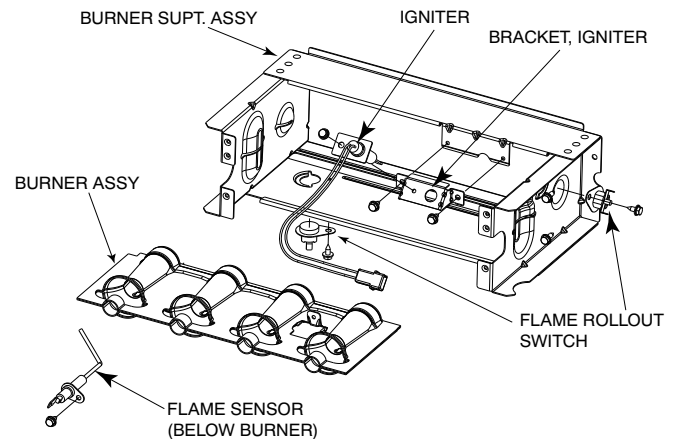
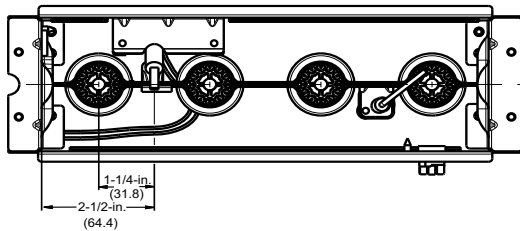
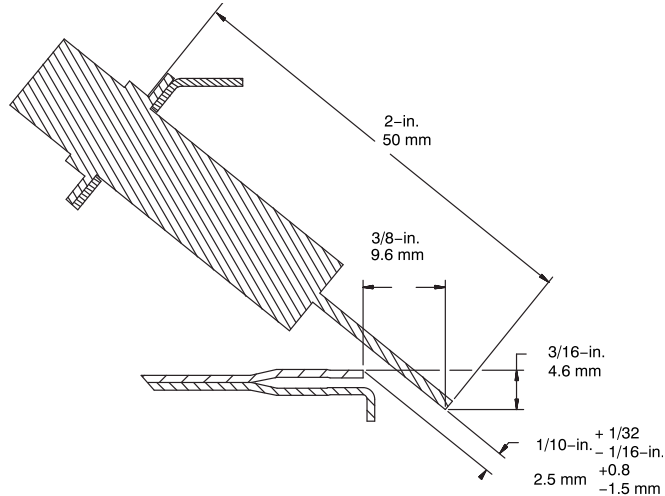

Fig. 66 – Burner Assembly
Fig. 67 – Igniter Position - Top View
Fig. 68 – Igniter Position - Side View
Refer to Fig. 66.
8. Check the igniter alignment, see Fig. 66, Fig. 67 and Fig. 68.
The igniter does **NOT** require annual inspection. Check igniter resistance before removal, see Fig. 66, Fig. 67 and Fig. 68.
- a. Using a 1/4-in. driver, remove the two screws securing the igniter mounting bracket to the burner assembly See Fig. 66.
6. To replace igniter and bracket assembly, reverse items 5a through 5d.
7. Reconnect igniter harness to the igniter, dressing the igniter wires to ensure there is no tension on the igniter itself, see Fig. 66.